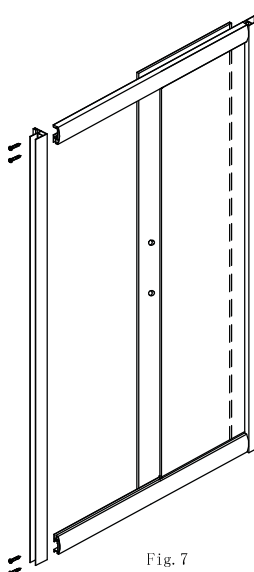

Fig. 7
(ENG) Use the M4X30 (5) to connect the magnet aluminum profile (11) and rails (14). As Fig.7